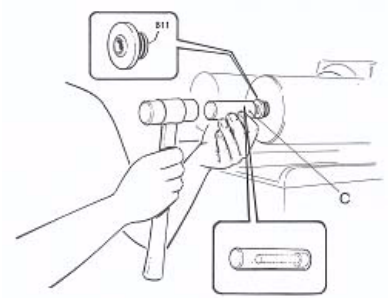

FIGURE 31
- Using the special tool "C" (see Figure 31) and a rubber mallet, gently seat the bushing into place as shown.